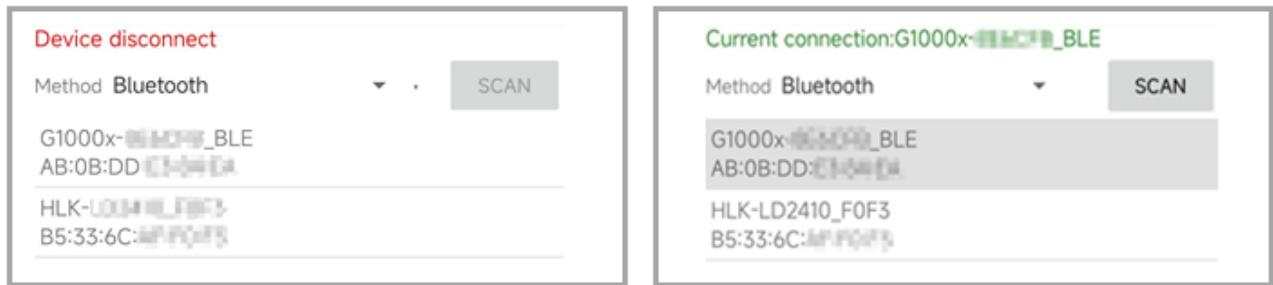

Figure 4-3 Bluetooth scan results and successful connection
- (1) Power on the G1000.
- (2) On your mobile device, open the Anypos App.
- (3) Navigate to the Device page and tap Device connect module
- (4) Set the Connection method to Bluetooth and press Scan.
- (5) The G1000 will appear as **G1000x-XXXXXX\_BLE**. Select it and tap Connect, see Figure 4-3.
- (6) Once connected, the page header will turn **green**, confirming successful pairing, see Figure 4-3.